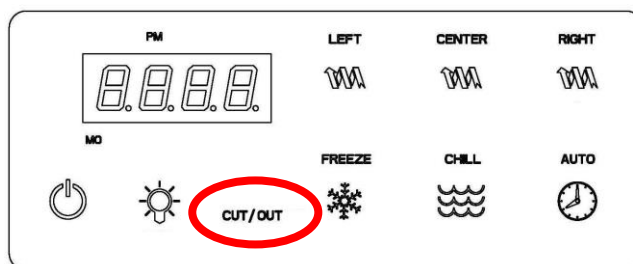

Fig. 23
A system over temperature message CUT/OUT will appear (fig.23) as a safety precaution when the unit has overheated to protect the compressor.
- When this occurs a CUT/OUT message will appear on capacitive display to alert the operator of this condition (fig.23).